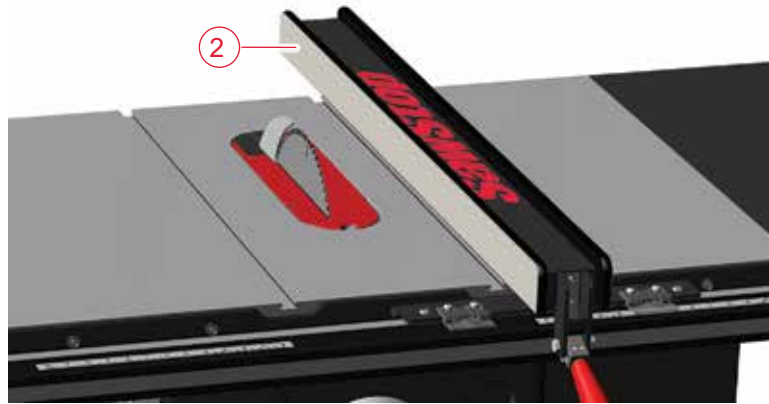

Fig. 32
**Parallel and Perpendicular:** The next step is to align the face plates (2) to be parallel to the miter slots. Begin by sliding the fence along the tube until the left face plate is flush with the right edge of the right miter slot. Lock the fence handle and check that the full length of the face plate is flush with the miter slot edge (Fig. 32).